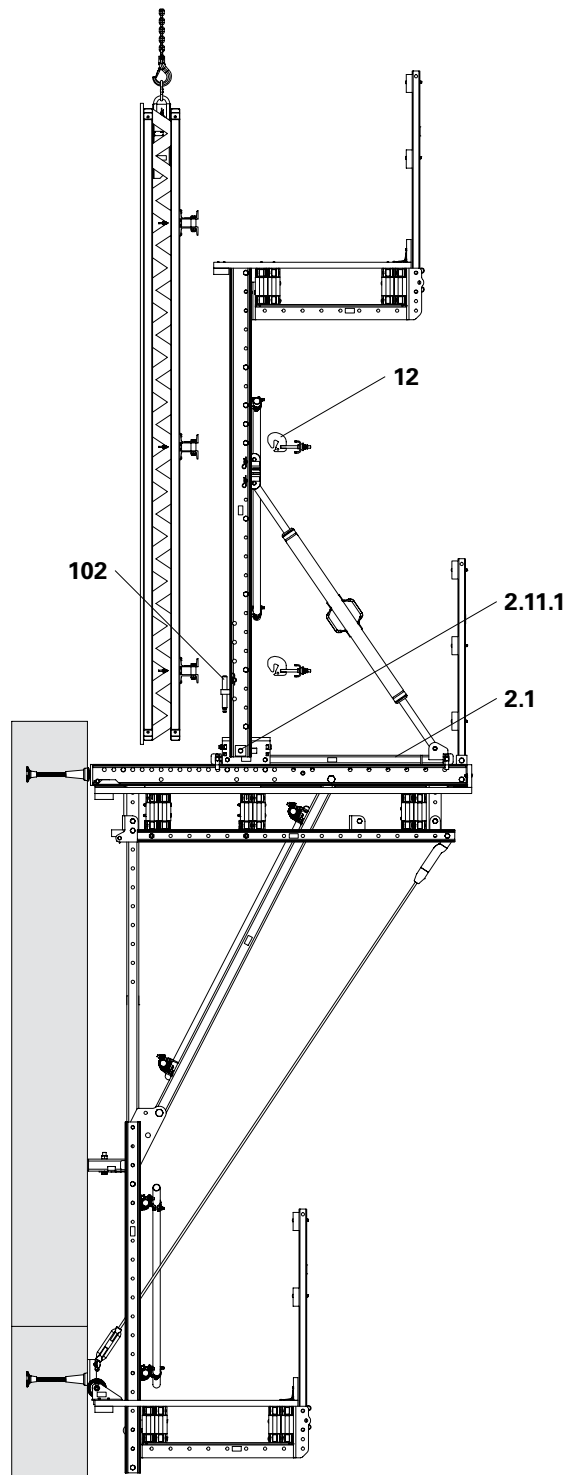

Fig. B3.07
3. Adapt or offset the Height Adjusting Unit (102) for the new formwork element.
6. Insert Waler Fixation U100-120 (12) and clamp the formwork element against the Strongback.
9. Align formwork (see Section B4). (Fig. B3.07)